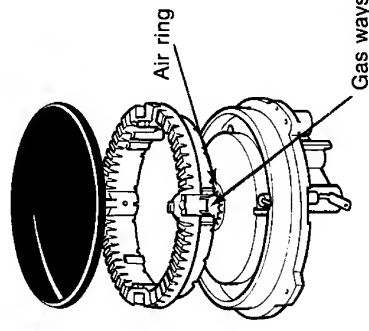

Fig. 5
2. If the flame is irregular check that the burner cap is correctly positioned – see Fig. 5 – and that the flame ports are clear. See notes about cleaning on page 7.
It is essential that no water or detergent is allowed to remain in the flame ports or gas ways. Replace disc and burner rings as shown in Fig. 5 with the lugs in the burner rings locating into the slots in the burner body.